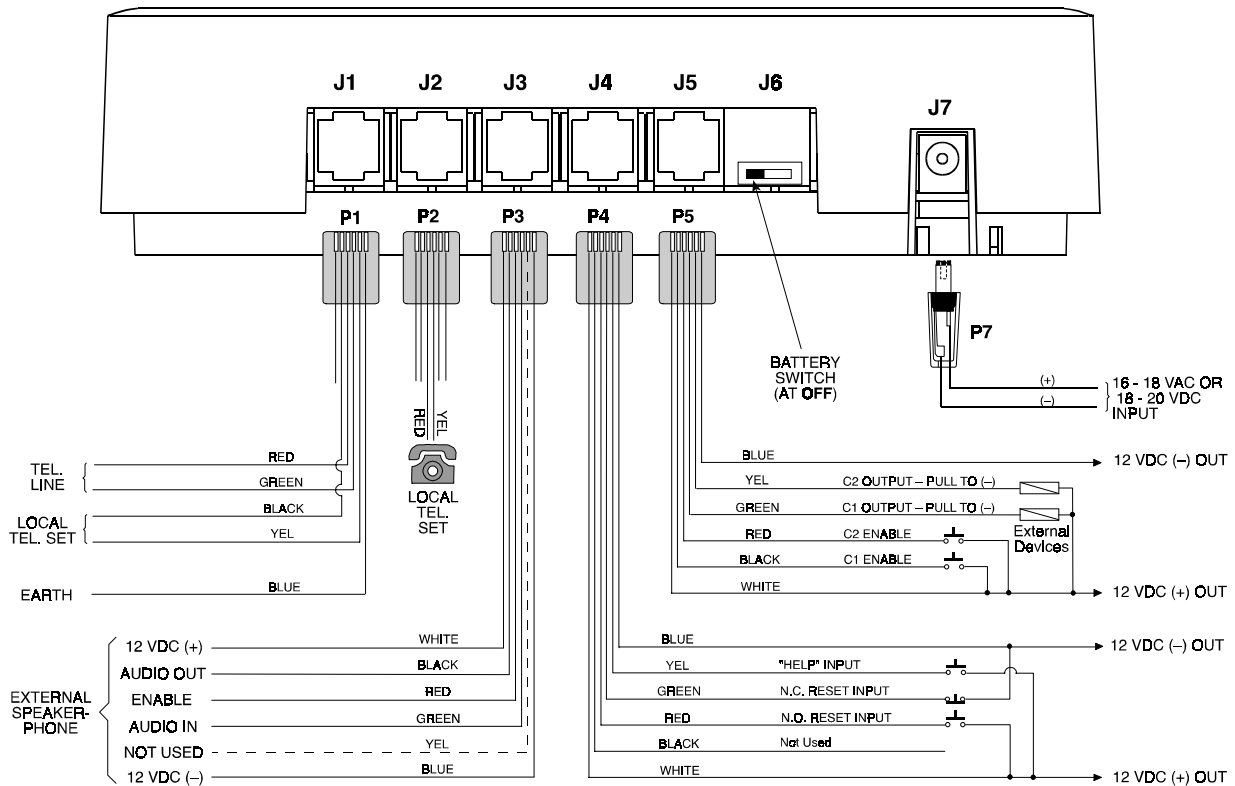

Figure 12. System Wiring
With all these in your possession, refer to Figure 12 and then:
- Set the battery switch to the ON position (see Figure 12).